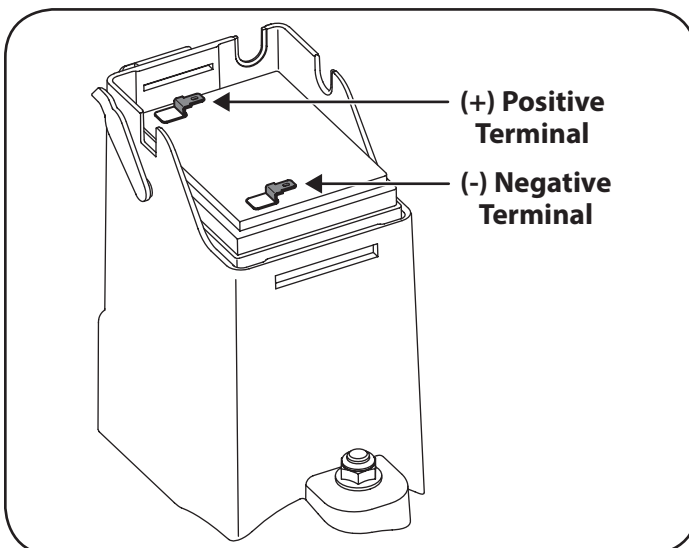

Figure 21
3. Replace with new battery. Connect the positive lead (red) to the positive side of the battery pack, then connect the negative lead (black) to the negative side. See Figure 21.